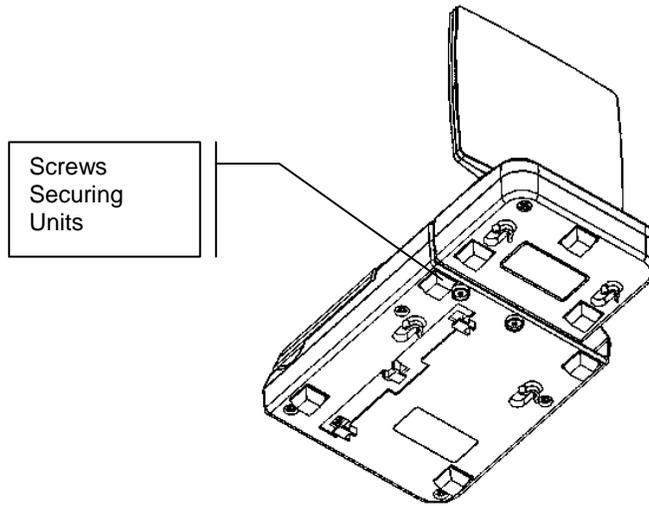

Figure 9. Undocking Units for Remote Positioning
1. Using a Phillips screwdriver, remove the two screws that secure the Antenna / Receiver and SDX USB Interface during shipment. (See **Figure 9**.)